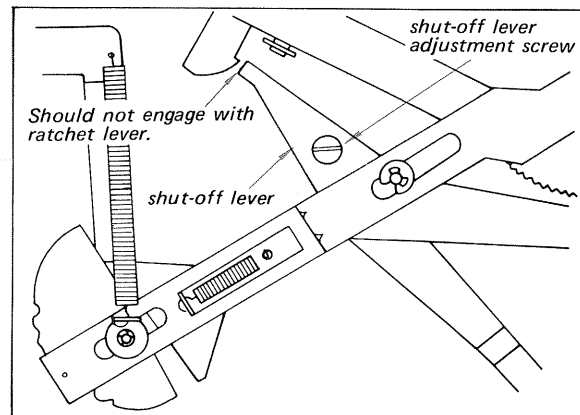

Fig. 3-10. Shut-off lever adjustment
2. Confirm that the shut-off lever engages with ratchet lever in REPEAT mode, and then adjust the shut-off lever adjustment screw so that the shut-off lever is not locked by the ratchet lever when the Operating Lever is set to MANUAL position as shown in Fig. 3-10.